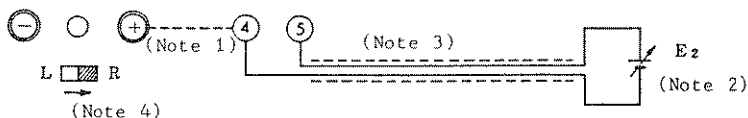

Figure 3-12
- Note 2: o By connecting zener diode Dz ( $V_z = 11$  V, 250 mW) between terminals ④ and ⑤ as shown in Figure 3-12, the output current can be limited at approximately 110% of the rated current even when the external resistance signal circuit